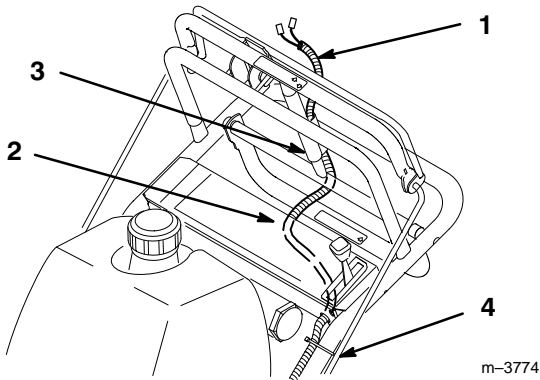

Figure 3
4. Route wire harness inside of frame, along left handle and over throttle cable. Compress wire harness covering and press into lower and upper holes in rear of control panel (Fig. 3).
5. Thread harness up through rear tube of traction handle (Fig. 3).
6. Insert terminals into plastic plug until the clips snap into position (Fig. 3). If they do not snap turn around.
7. Push plug onto switch so latch interlock (Fig. 3).
8. Secure wire harness and throttle cable to left handle, away from PTO lever, with wire tie (Fig. 3).